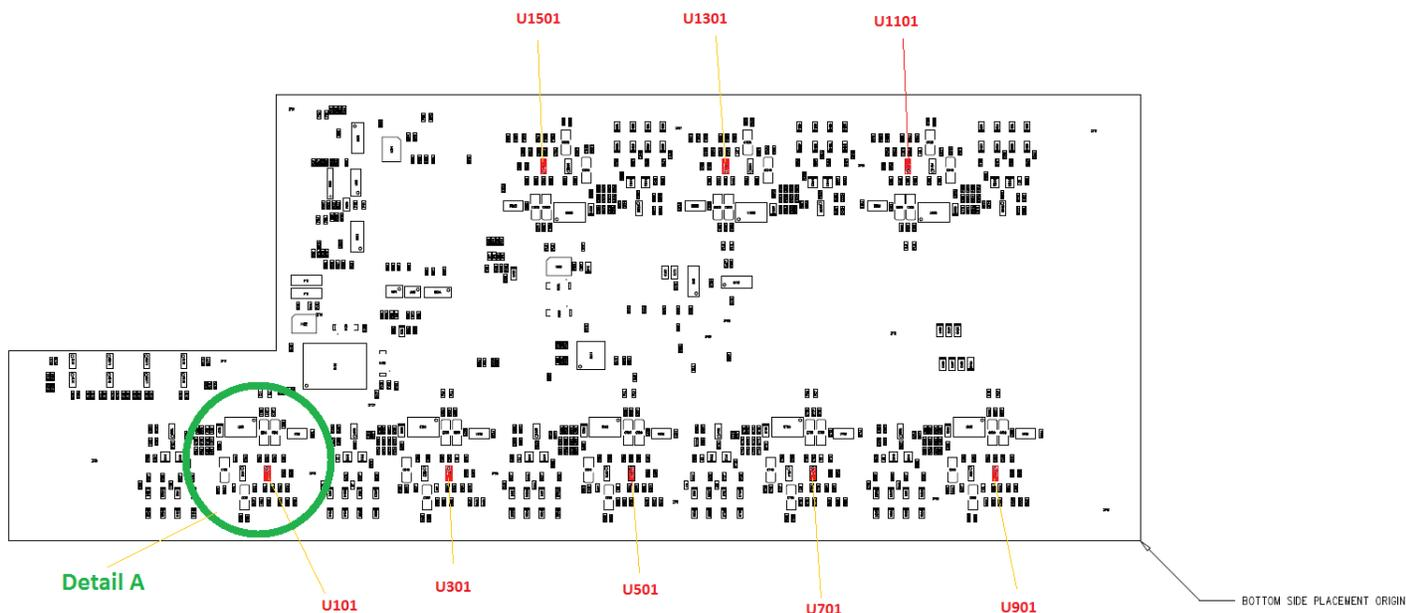

FIGURE 2: The following drawing shows DETAIL A from the assembly drawing which is a close-up of the circuitry surrounding U101 for channels 1 and 2.
2. Figure 2 is a magnification of the area around U101. The circle on U101 in Figure 2 represents the corner corresponding to pin 1.
5. Locate R104 on the bottom assembly print Figure 2. It is just below U101.
2. Locate R204 on the bottom assembly print Figure 2. It is just below and to the right of U101.